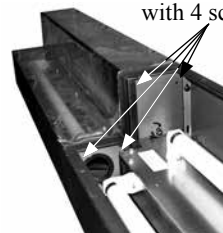

Figure 4
- Secure the tops of the units together with four provided screws. (Fig. 4)